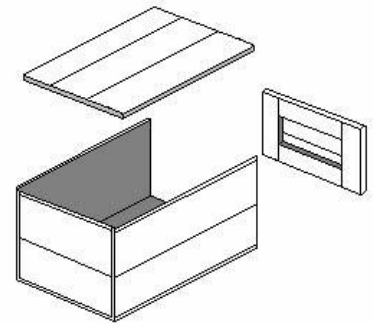

Figure 1: Style 2 Nailed Wooden test box
1. A substantial wood box (**corrugated containers will not be accepted**) filled with sand or equivalent to a gross weight of 100 lb (45 kg). In order to maintain uniform data, it is required that this test box be a Nailed Wooden Box (end cleats INSIDE), measuring approximately 24" x 18" x 10", OD. It is recommended that it be retained and kept continuously available for periodic equipment calibration (See Figure 1). REQUIRED FOR CERTIFICATION OF ANY FIXED DISPLACEMENT VIBRATION TABLE AND INCLINE-IMPACT TESTER.
4. Metal shim  $\frac{1}{16}$  inch thick, approximately two (2) inches wide. REQUIRED FOR CERTIFICATION OF ANY FIXED DISPLACEMENT VIBRATION TABLE.